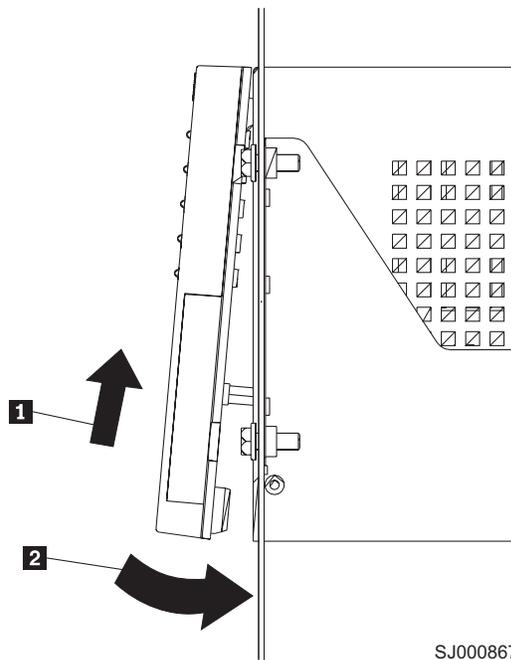

Figure 10. Replacing the controller unit bezel (machine types 3552 and 1742)
- To replace the bezel, slide the top edge under the lip on the chassis **1**; then, push the bezel bottom until the pins snap into the mounting holes **2**, as shown in Figure 10.